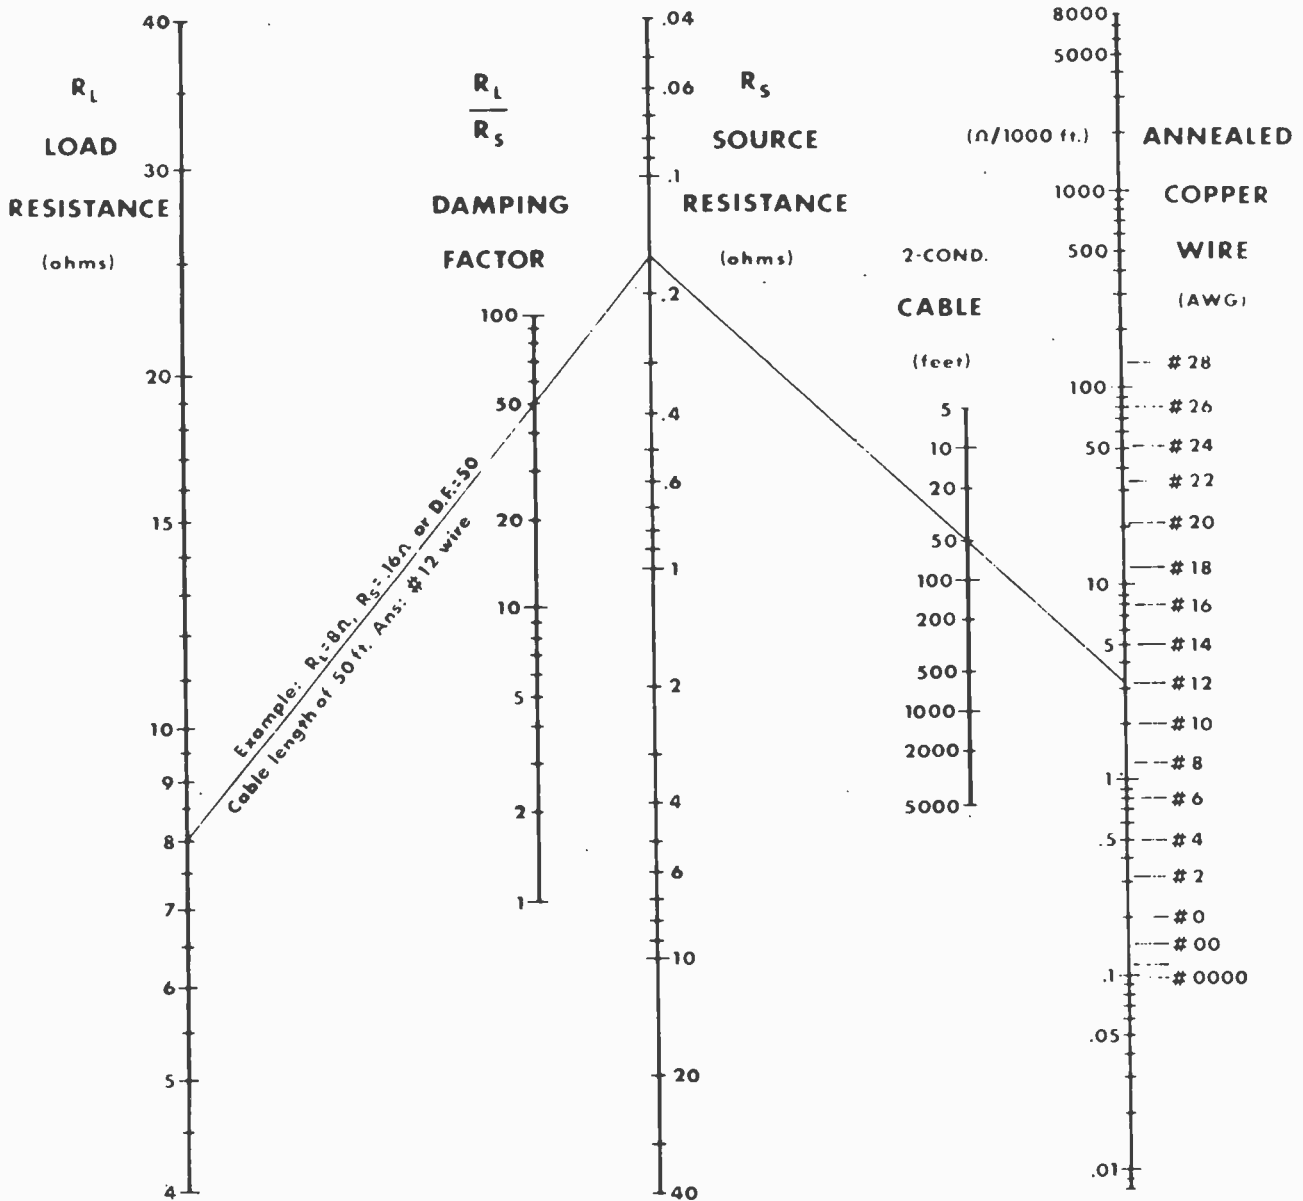

Fig. 1. Nomograph relating cable length, wire size, and damping factor. For a given load resistance and damping factor, wire size and length can be determined.
**Wiring Yourself For Sound.** Now it's time to look at that rat's tangle you call your speaker cables. Any conductor that connects speaker to amplifier will enable the speaker to make a noise, but inadequate wiring will waste amplifier power, degrade the damping factor, and subtly but measurably affect frequency response. Rarely will any of this be grossly audible, but why ask for trouble? The nomograph of Fig. 1 (courtesy Crown International) reflects the practices of professional installers. If you're in doubt or too lazy to measure the required cable lengths, number 16 lamp cord is adequate for most home installations where amplifier and speakers share the same room.